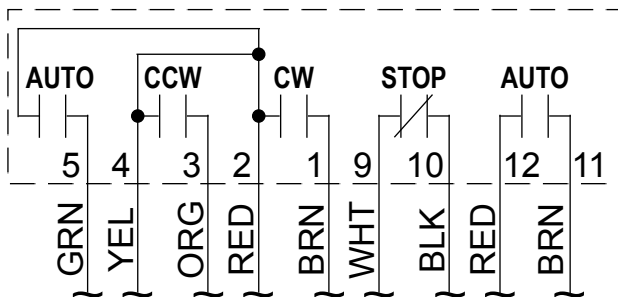

Figure 2
3. **Disconnect one wire at a time** from the Handswitch and reconnect it to the corresponding terminal on the new Handswitch (see Figure 2 for Handswitch wiring diagram, if needed).